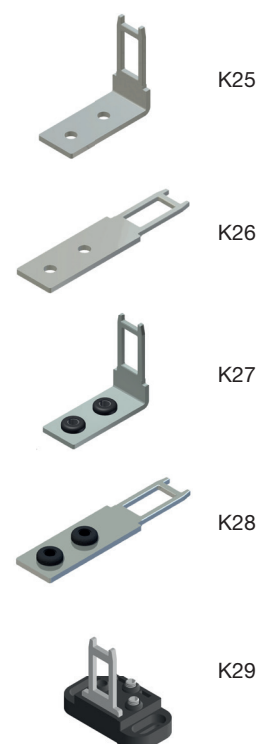

Fig. 2 Actuators (to be ordered separately)
* To be ordered separately (fig. 2)